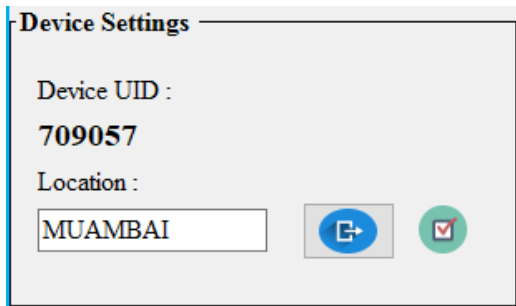
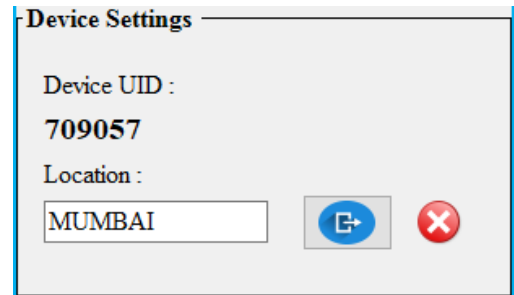

Figure 33
Figure 34
- If location is set correctly then  Right check will appear on window or if setting is not done properly, then  Wrong check will appear on window as shown in Figure 33 & Figure 34 respectively.